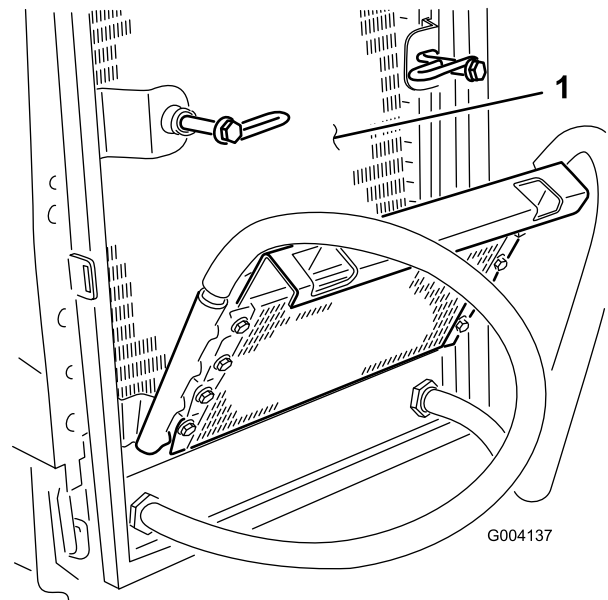

Figure 54
6. Thoroughly clean both sides of the oil cooler and the radiator (Figure 54) with compressed air.